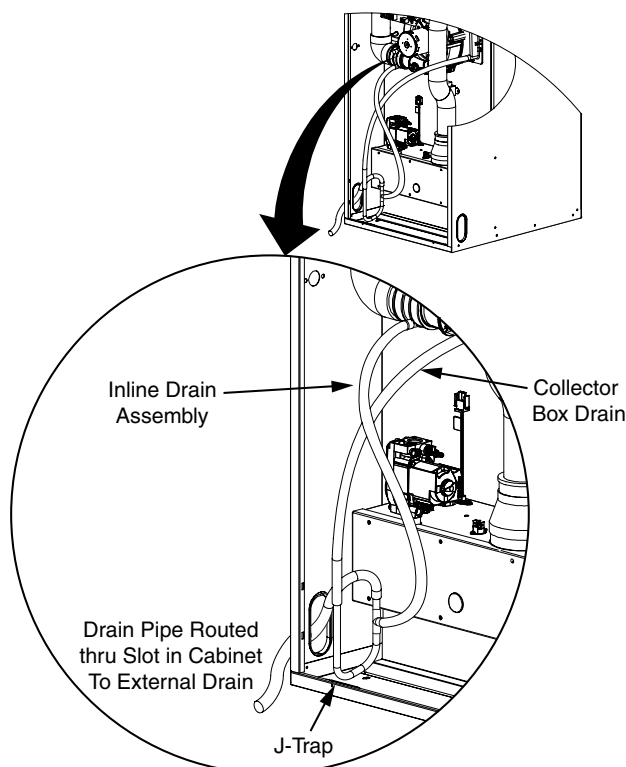

Figure 17. Condensate Drainage
- The condensate drain may exit through the left or right slots in the bottom of the furnace (Figure 17). Make sure the flexible drain hose is not kinked.
1. Remove the collector box soft tube (Figure 17) and verify the exit from the collector box is clear of any debris or obstructions.